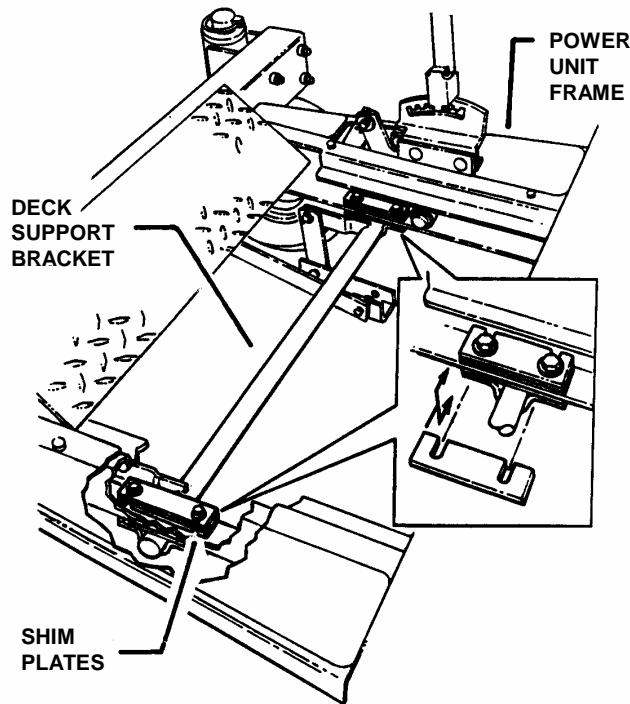

FIGURE 4.2
6. Loosen the nuts and bolts that secure both front and rear deck support brackets on the high side of deck. Located above each support bracket, on the top part of the power unit frame, are three shim plates. Remove the shim plates on both of the front and rear lift arms and position plates between the support bracket and the frame of the power unit. Inserting the shim plates in this procedure will lower that side of the deck. Retighten the support bracket nuts and bolts to 20 to 30 ft. lbs. of torque. See Figure 4.2.